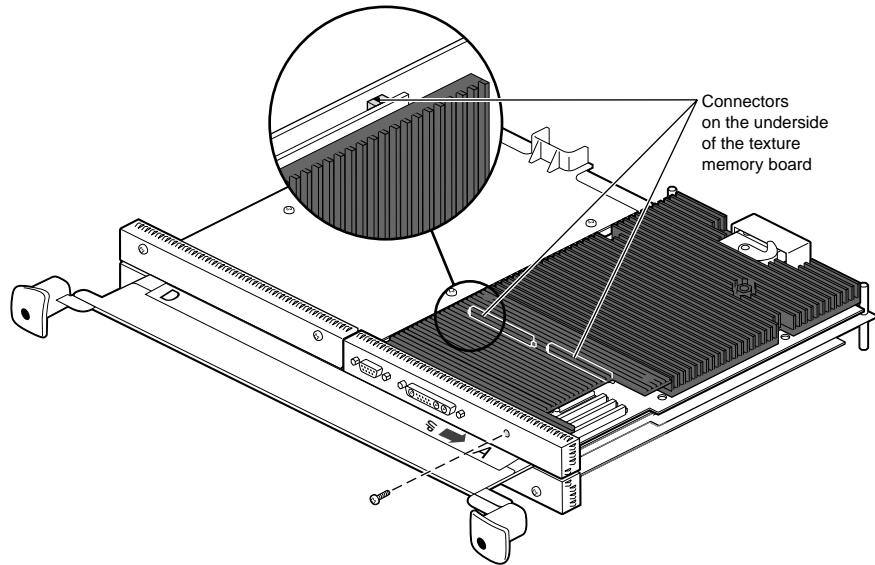

Figure 2-16 Inserting the Nylon Screw
6. Place and tighten the nylon screw that came with the texture memory board through the hole in the I/O panel and into the hole on the texture memory option board as shown in Figure 2-16.